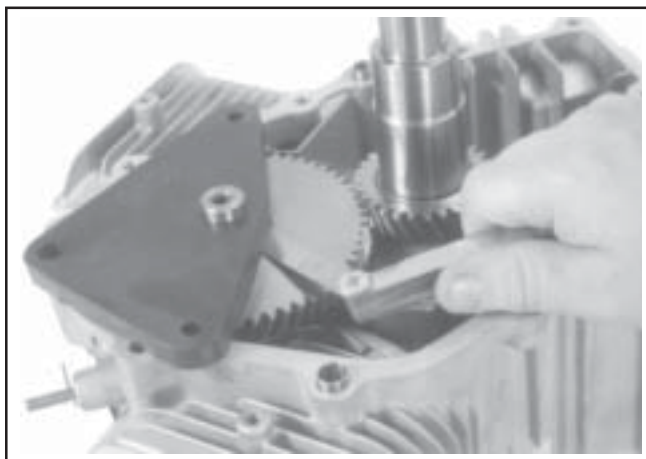

Figure 11-14. Checking Camshaft End Play.
2. Position the camshaft end play checking tool on the camshaft. See Figure 11-14.